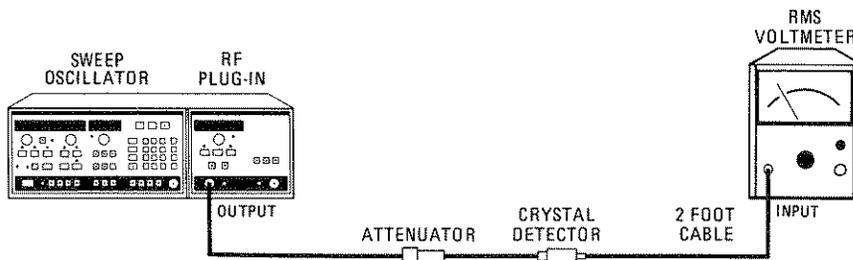

Figure 4-15. Residual AM Test Setup
1. Connect equipment as shown in Figure 4-15 using a 20 dB attenuator.